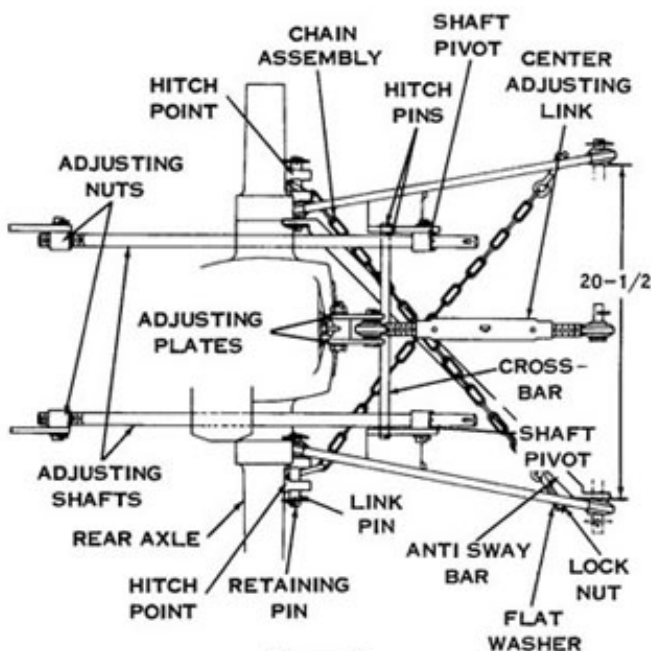

Figure 1
2) Insert cross-bar through lower holes in lift assembly up-rights and secure with heavy hitch pins on both sides of each up-right as shown in Fig. 1 & 2.
3) With adjusting nuts and shaft pivots installed on the adjusting shafts Fig. 1 & 2, attach adjusting shafts to the upper hole in the lift assembly up-rights using flat washers and heavy hitch pins being sure the heavy spring pin and thrust washers have been properly installed to the back side of the pivots on the adjusting shafts.